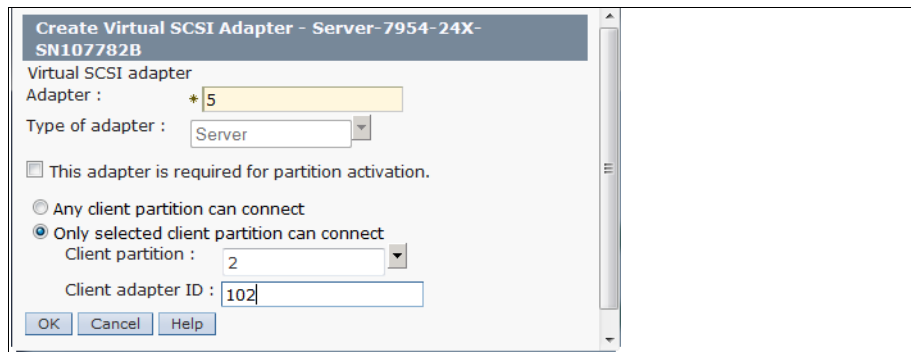

Figure 8-42 HMC Create Virtual SCSI Adapter window
8. Select **Actions** → **Create** → **SCSI** to open the Create Virtual SCSI Adapter window, as shown in Figure 8-42 on page 392. Use the following settings:
9. After you enter all of the information, select **OK**, as shown in Figure 8-42.